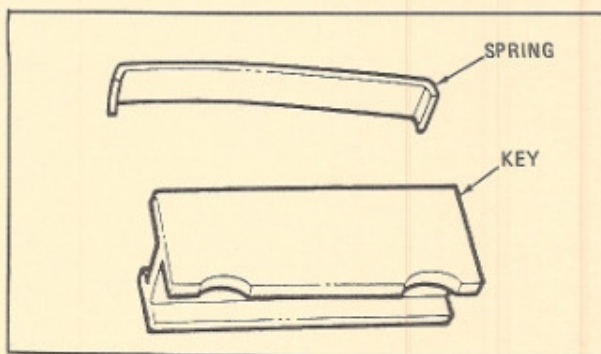

Figure 158 — Caliper Spring and Key
6. Secure the key to the support with the key retaining screw, (figure 158). Tighten the screw to 12-20 (lbs.-ft.).